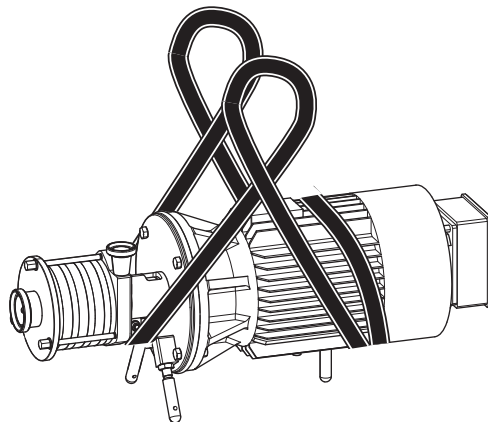

Fig. 14 Transport by crane
1. Loop the round sling twice around the rear end of the motor. Do not loop the sling across the fan cover, see Fig. 14 Transport by crane.